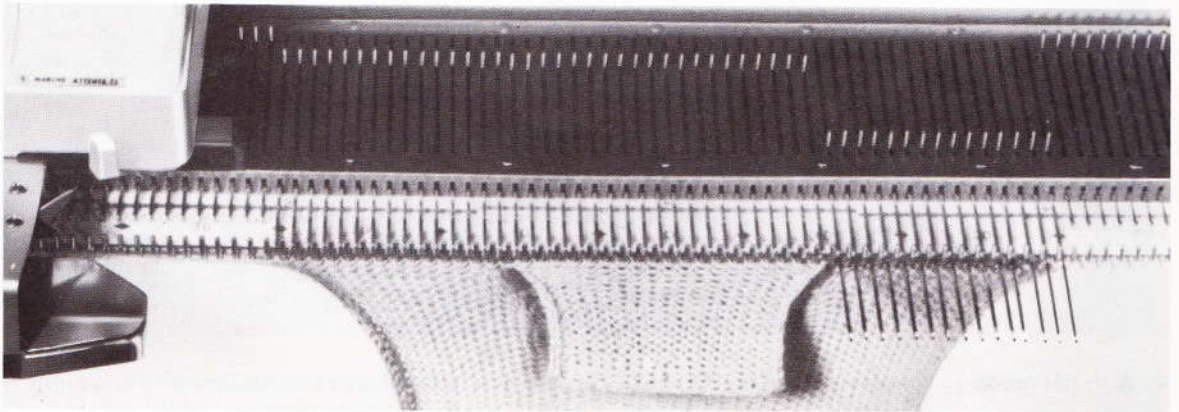

Fig. 179
6. Push carriage from right to left. The needles on the left are knitted and returned to B position (fig. 179). SET RETURNING LEVERS ON 'normal'. Turn row counter to 41.